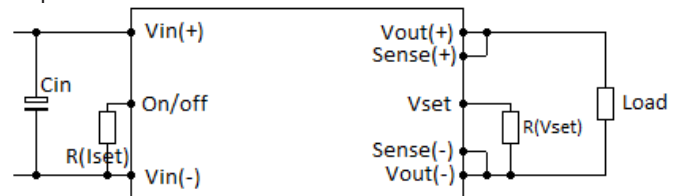

Figure 15
The output voltage can be programmed to any voltage between 0Vdc and 60Vdc by connecting one resistor, R(Vset), between the Vset pin (9) and Vout- pin (7); See Figure 15. For a desired output voltage, the value of the resistor should be:
The maximum output current (effectively the current limit) can be reduced to any value between 0 and Imax by connecting one resistor, R(Iset), between the Iset pin (4) and Vin- pin (6); see Figure 15. The value of the resistor should be: